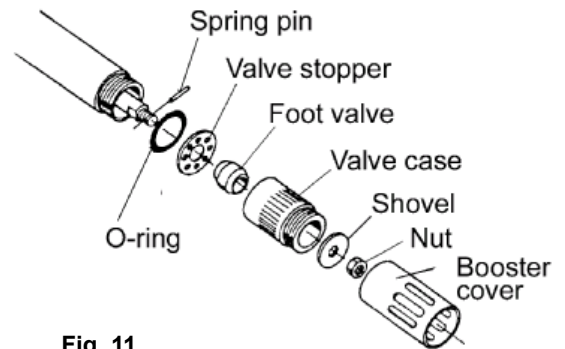

Fig. 11
- 1) Fix the suction tube on the vise and set a pipe wrench on the booster cover. Unscrew the suction tube and remove the spring pin, nut, and shovel. (Fig. 11)